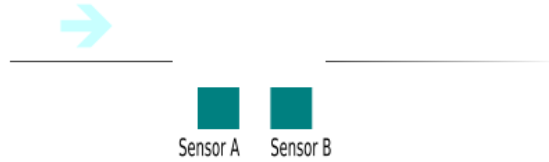

Figure 2: IR-System
**Q2** A simple Infra-Red Sensor system to detect passing human is presented as in Fig. 2. A and B are IR Sensors which will generate different output voltages for different infra-red intensity, and higher voltage level corresponds to high light intensity.
- (1) Explain how this system works for counting passing pedestrians.
- (2) To increase counting accuracy, usually B is covered with materials that can reflect infra-red light. Explain why.